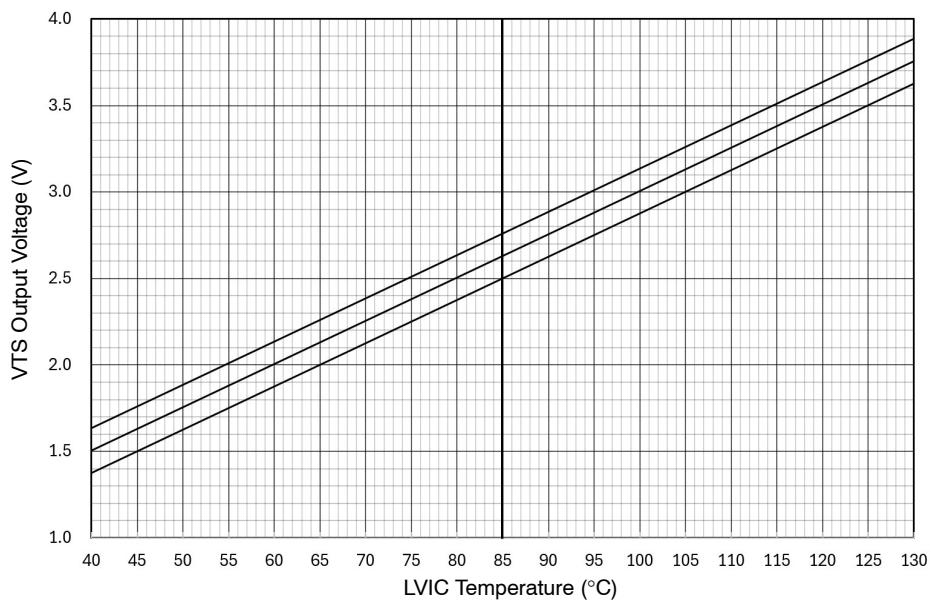
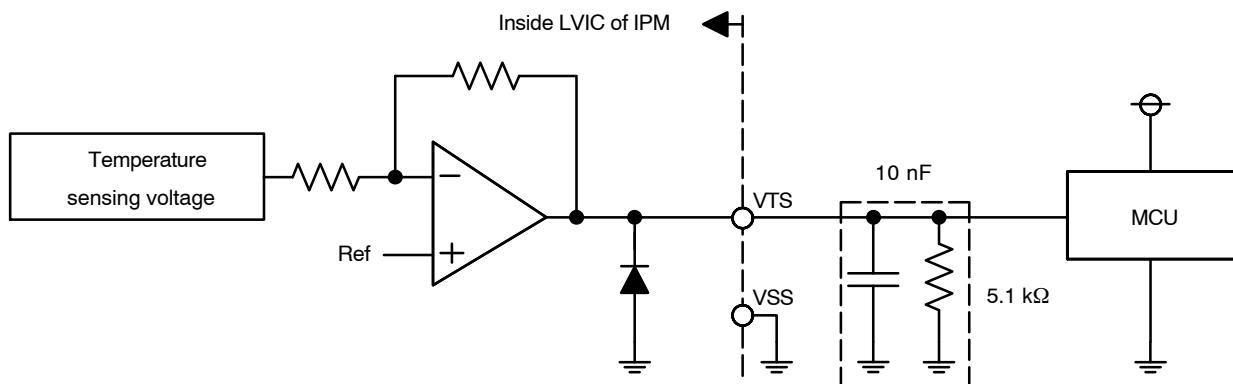

Figure 5. Temperature of LVIC versus VTS Characteristics
Figure 6. Internal Block Diagram and Interface Circuit of VTS
- TLVIC is the temperature of LVIC itself. VTS is only for sensing temperature of LVIC and cannot shutdown MOSFETs automatically. The relationship between VTS voltage output and LVIC temperature is described in Figure 5. It is recommended to add $5.1\text{ k}\Omega$ pull down resistor between VTS and VSS (Signal Ground) as described in Figure 6 for linear output characteristics at low temperature. To reduce noise, 10 nF cap is recommended as well. Refer to the application note for usage of VTS.
To avoid malfunction, the wiring of each input should be as short as possible (less than 2–3 cm). Each capacitor should be mounted as close to the pins of the product as possible. VFO output is open-drain type. This signal line should be pulled up to the positive side of the MCU or control power supply with a resistor that makes IFO up to 1 mA. Please refer to Figure 6.